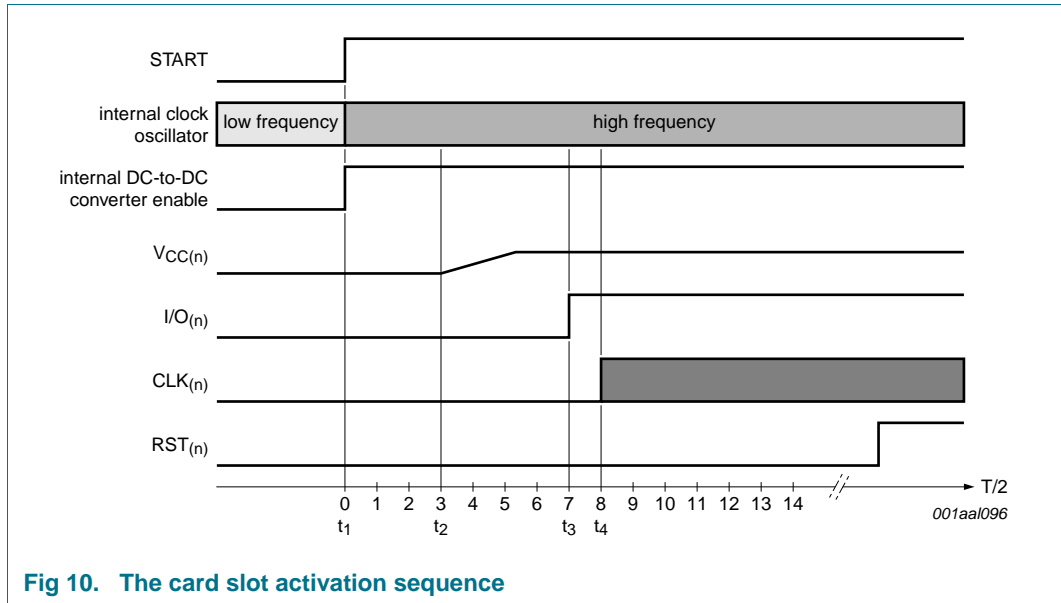

Fig 10. The card slot activation sequence
- The internal oscillator switches to its high frequency ( $t_0$ , see Figure 10).
In Figure 10 only one card slot is activated. If another card slot is active, the DC-to-DC converter remains active.